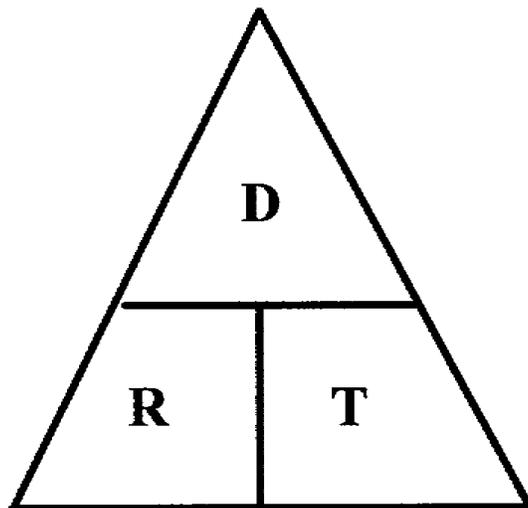

Figure 4-4. Finding an Unknown Factor of Distance, Rate, or Time.
Time, distance, and rate are factors used for determining scheduling calculations for columns of all sizes. When two of the three factors are known, the third can easily be found by dividing a triangle as shown in Figure 4-4 and covering up the unknown factor. The uncovered portion of the triangle provides you with the formula for computing the unknown. For example, if distance (D) is unknown, cover it, and rate (R) x time (T) remains. If rate is unknown, covering R leaves D/T. If time (T) is the unknown, covering it leaves D/R as the formula.